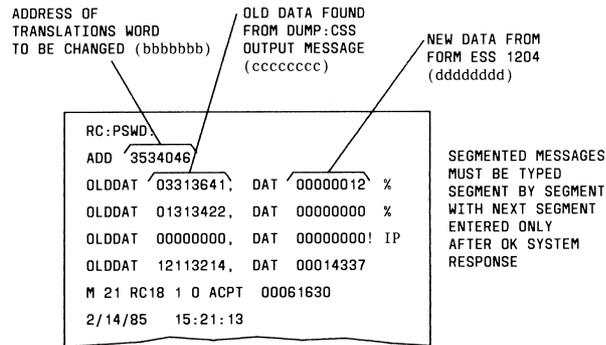

Fig. 22 — Example of RC:PSWD Message for Multiple Changes
- (h) Construct RC message per Table B and Fig. 22. Check for accuracy.